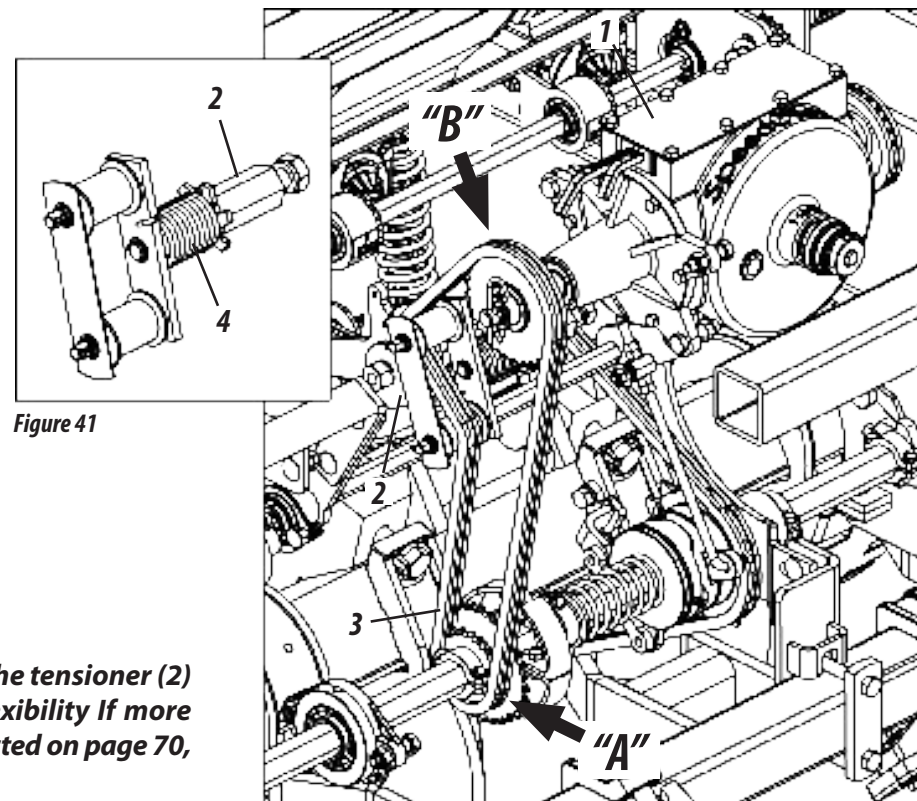

Figure 41
REGULATION FOR FERTILIZER DISPENSING (FIGURE 41)
Seed adjustment is done through the *Speed Box* (1). To obtain more adjustments, invert the current in the motor gears **"A"** and moved **"B"**, as shown in figures 41. To reverse the current in the gears, proceed as follows:
- 1- First, turn the tensioner (2), removing the chain tension (3).
- 2- Then invert the current (3) according to the need for work.
- 3- Then, release the tensioner (2) releasing it, returning the tension in the chain (3).